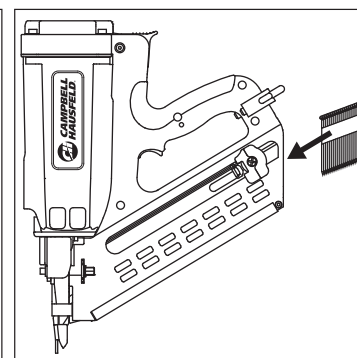

Figure 17
2. Insert nail strip into the back of the magazine (see Figure 17).